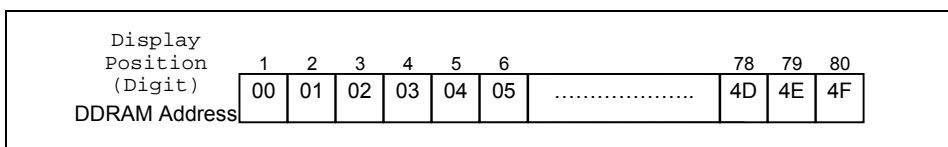

Figure 2 1-Line Display
- **1-line display (N = 0) (Figure 2)**